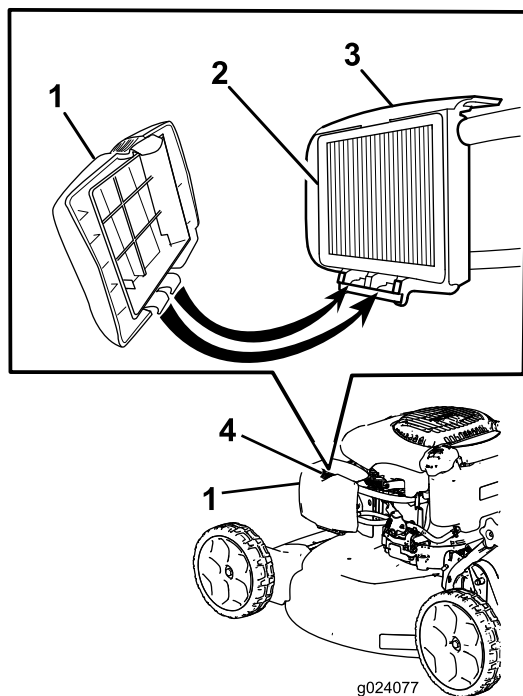

Figure 18
2. Press the button on the air-cleaner cover (Figure 18) and open the cover.